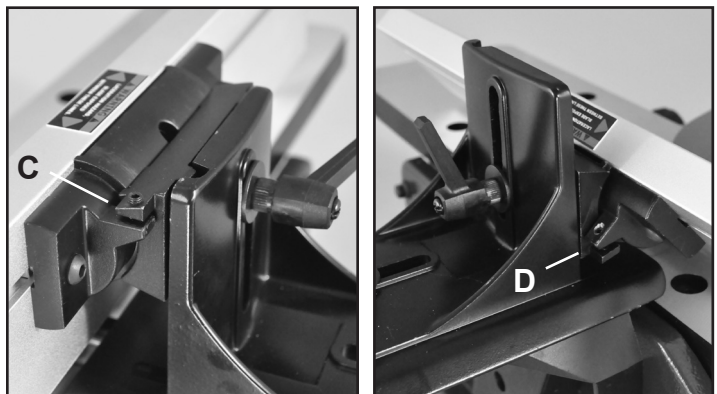

FIG. 20
5. Tighten the set screw (C) with a hex wrench until it contacts the stop. FIG. 20.
7. Tighten set screw (D) with a hex wrench until it contacts the stop. FIG. 20.